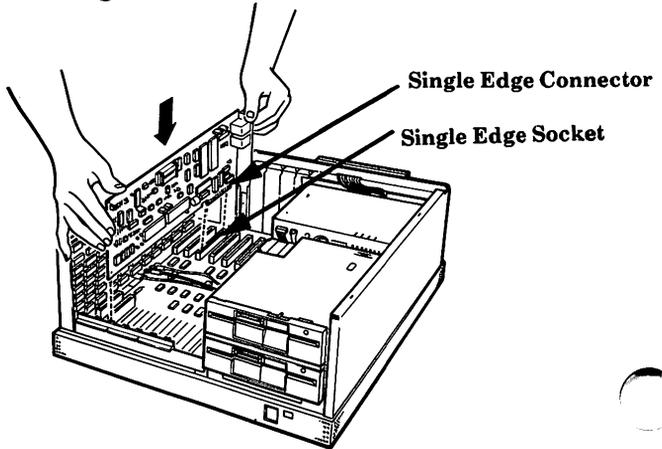

*Figure 2-4. Location for modem option board.*
8. Remove the screw and the option slot plate and set them aside. See Fig. 2-4.